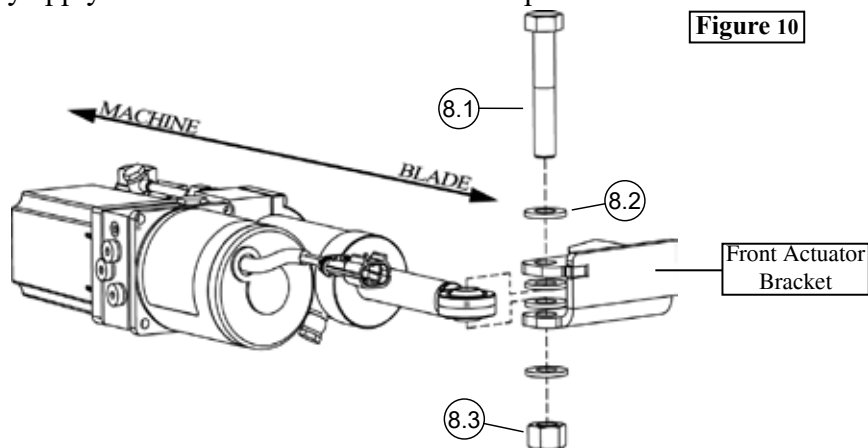

Figure 10
2. Repeat previous step for mounting the front half of the actuator, as shown in Figure 10. It is most important that you use the washers to make sure that the actuator is parallel to the cradle swivel point, as shown in Figure 11. Both front, and rear bolts should not be tight, thread the nut on until Nylock is engaged.
2. Repeat previous step for mounting the front half of the actuator, as shown in **Figure 10**. It is most important that you use the washers to make sure that the actuator is parallel to the cradle swivel point, as shown in **Figure 11**. Both front, and rear bolts should not be tight, thread the nut on until Nylock is fully engaged.